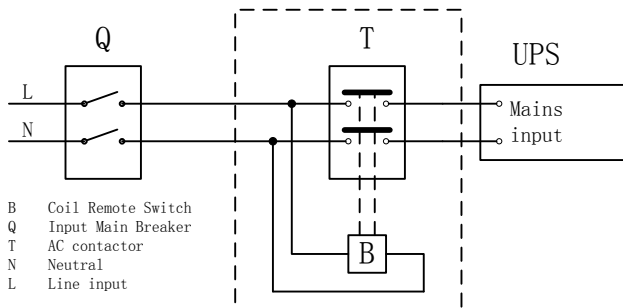

Fig.4-6 Typical external isolating device installation
- 1) It is suggested to install an external isolating device to protect against current backfeed between mains input and the UPS (see Fig.4-6). After the device is installed, an appropriate warning should be applied to the external AC converter label reading: